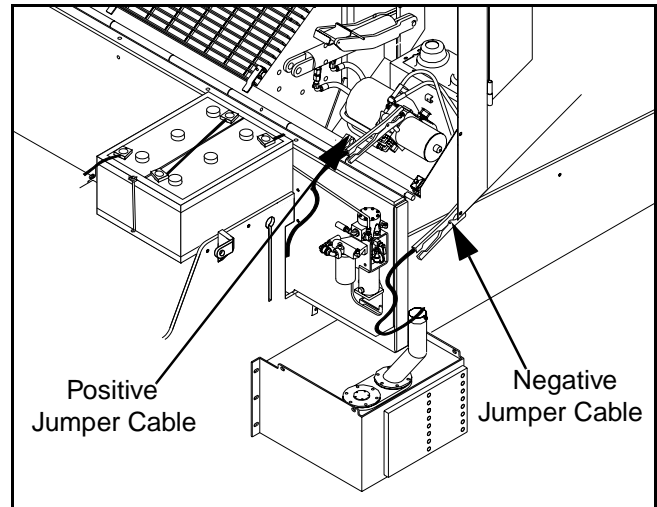

Figure 3 - 22 Jumper Cable Connection Points
- 2) Connect the jumper cables to the power source. (Figure 3 - 22)